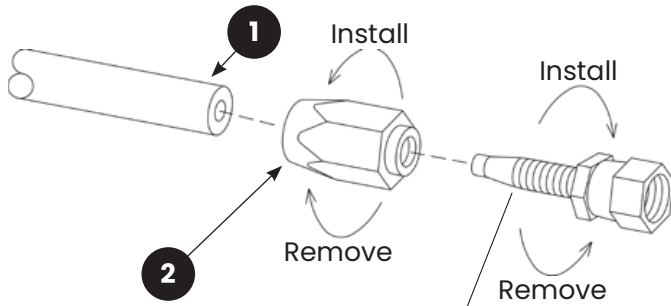

FIGURE 8: (1) Control Hose; (2) Sleeve
4.3 Cutting Control Hose and Reusing Control Hose Fittings – Figure 8
For larger obstructions, shut the machine down to examine the abrasive valve. Remove the clean-out cover from the main body or actuator body (**Figure 8**) and clear obstruction.